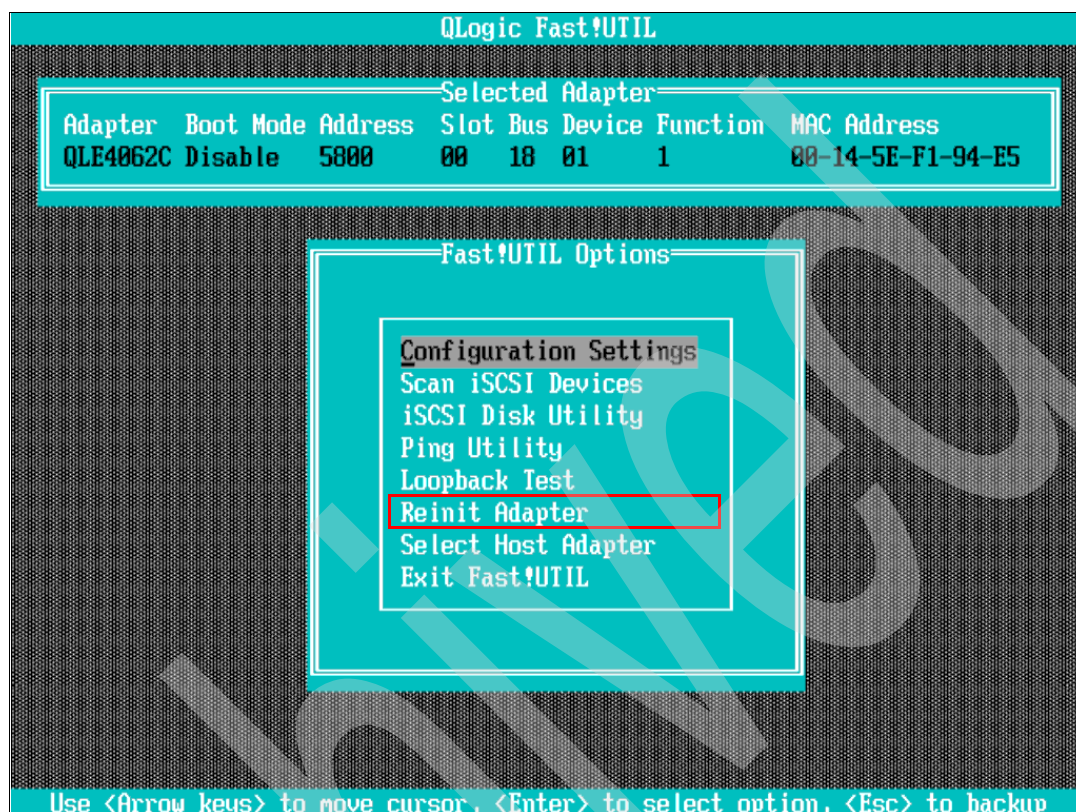

Figure 5-66 Fast!UTIL Options menu window
- From the QLogic Fast!UTIL menu, scroll down to initialize adapter and press Enter, which will establish a connection between your iSCSI HBA and DS5000 Controller. See Figure 5-66.